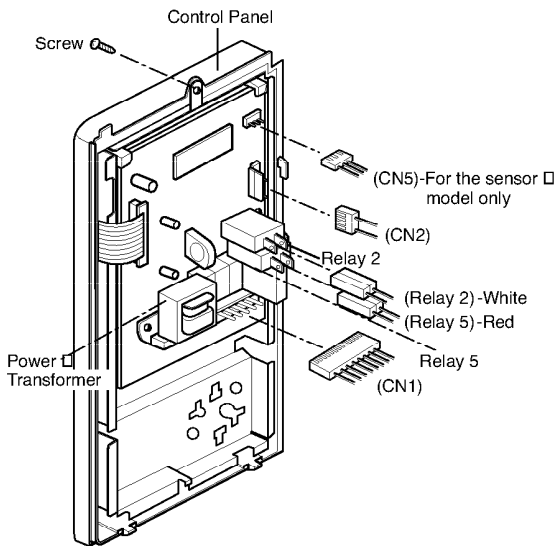

Figure 1
A. REMOVING POWER AND CONTROL CIRCUIT BOARD (Figures 1, 2 and 3)
- (1) Remove a screw securing the control panel assembly to the oven cavity.
- (2) Remove the control panel with pushing it upward.
- (3) Remove the three connectors (CN1, CN2) and wire leads (Relay2 and Relay5) from the circuit board.